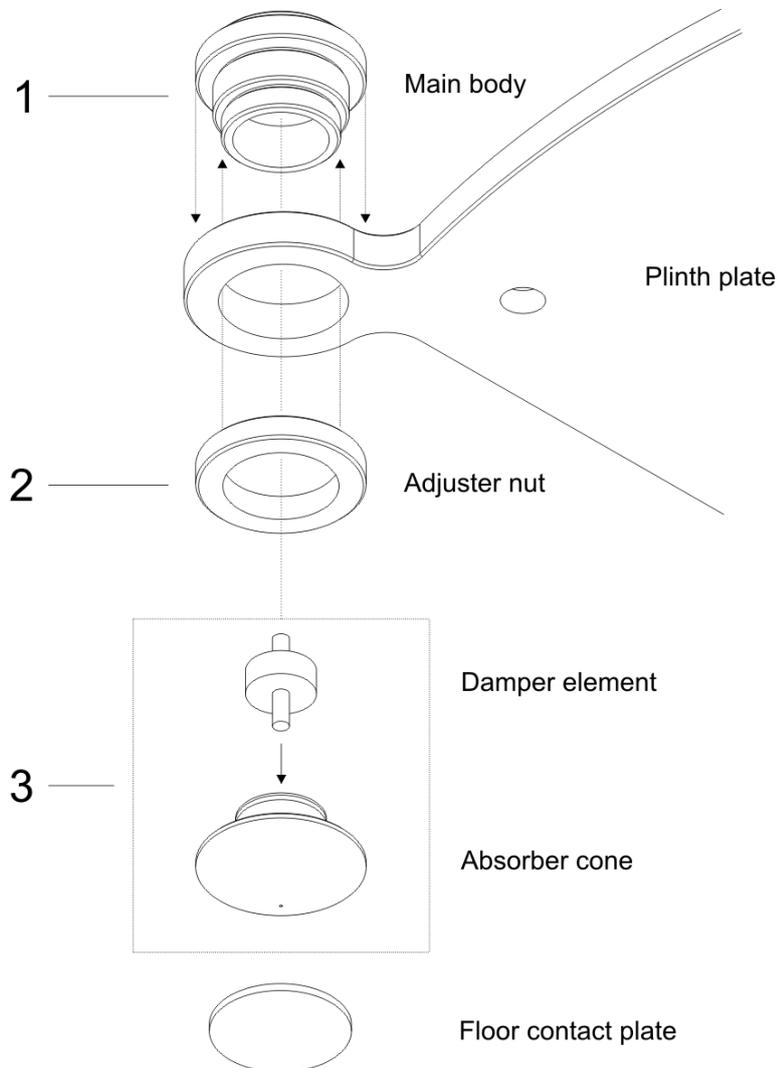

Fig. 3
- The first step is to screw the main body (1) of the absorber into the plinth plate from above.
- It is essential to screw the adjuster nut (2) onto the main body next, working from the underside.
- Prepare the absorber cone and damper element by screwing the damper element into the cone. Now screw the prepared cone into the main body as shown in Fig. 3.